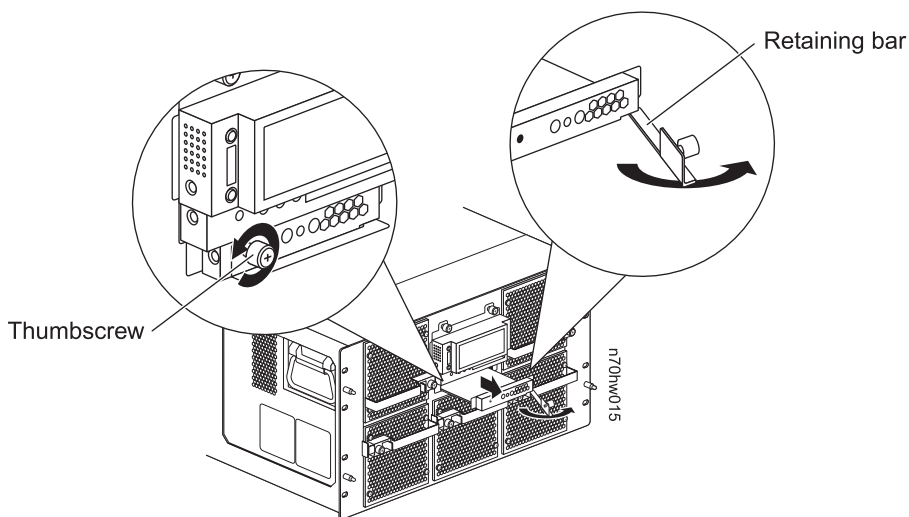

Figure 30. Removing the RLM carrier
3. Loosen the thumbscrew on the left side of the RLM carrier, and then swing the retaining arm to the right. See Figure 30.